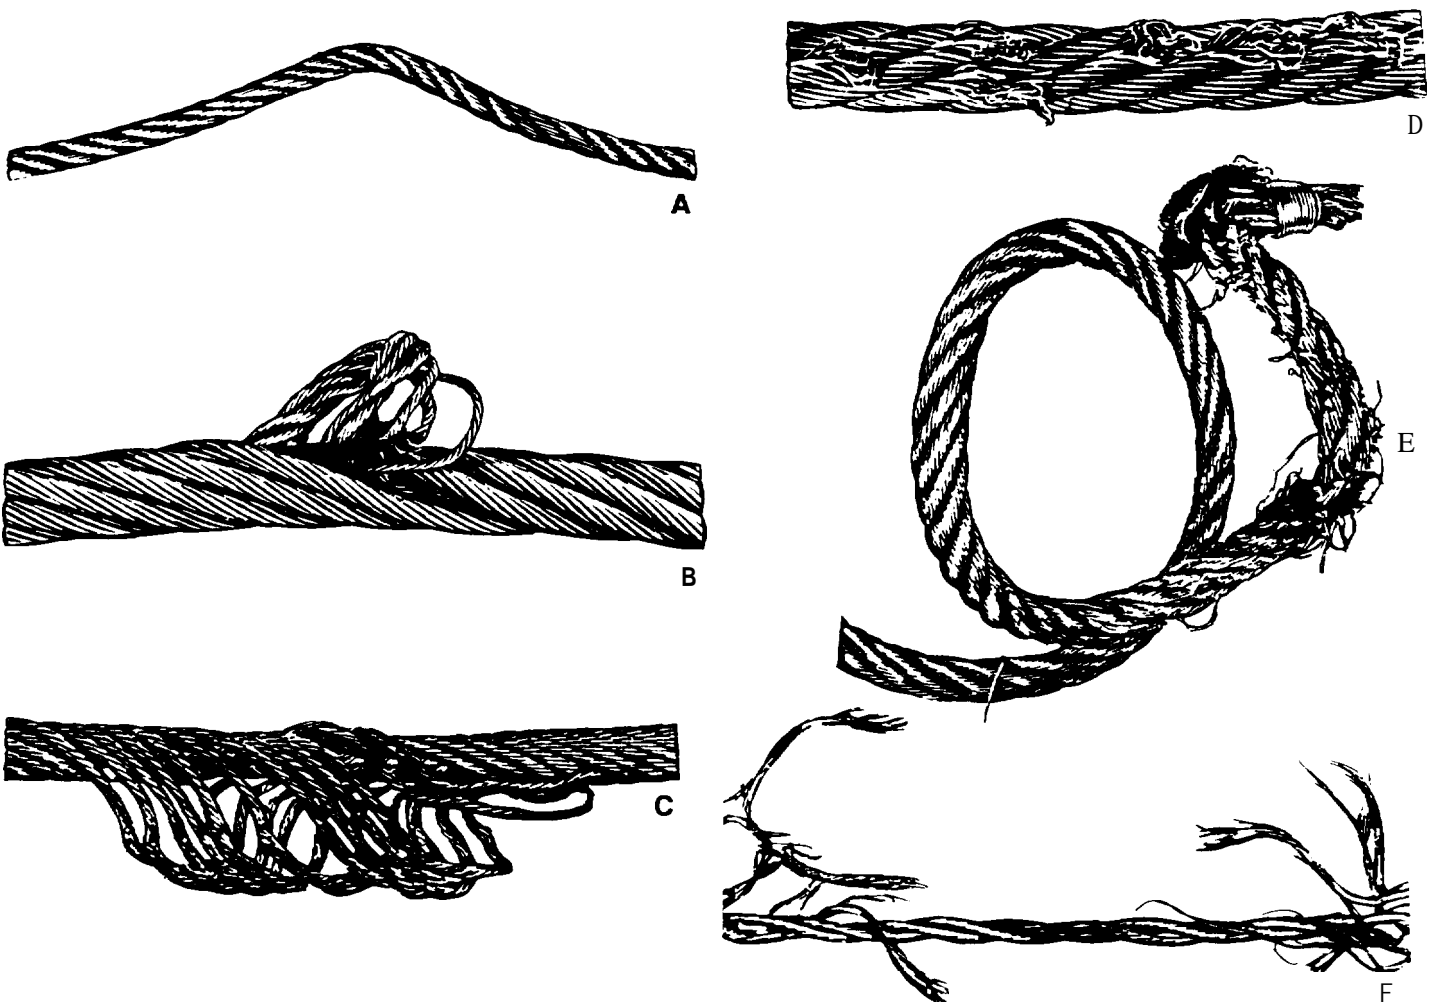

Figure 4-50. *Types of Wire Rope Damage*
7. There are different types of wire rope damage (Figure 4-50):
- a. Dog leg (A).
- b. Popped core (B).
- c. Bird caging (C).
- d. Snagged strand wires (D).
- e. Spiraling that is brought about when rope jumps from the sheave (E).
- f. A tension break resulting from overloading (F).